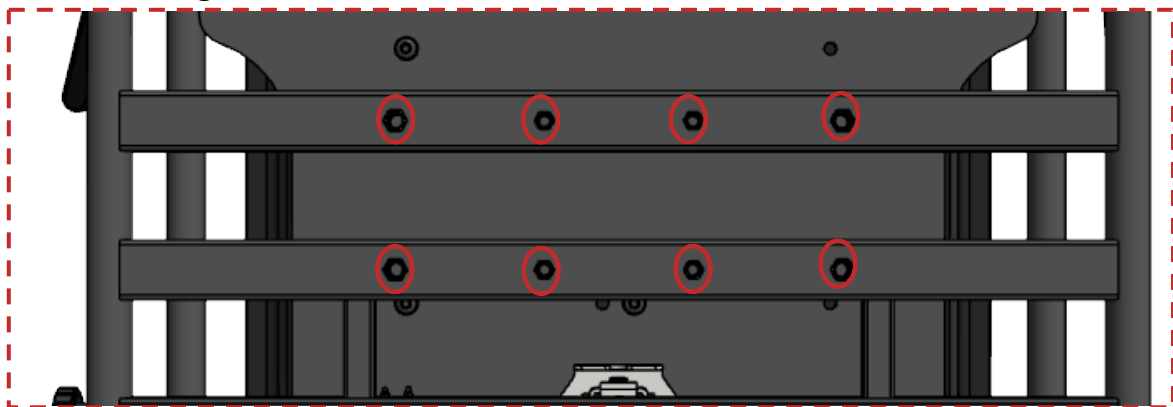

Figure 25 Inspection of mounting threads at bottom side
- Before and after each installation, the **M8 and M10 mounting holes** (see red marking in Figure 25) must be carefully inspected, as they may get damaged during the installation of the hanging accessory.